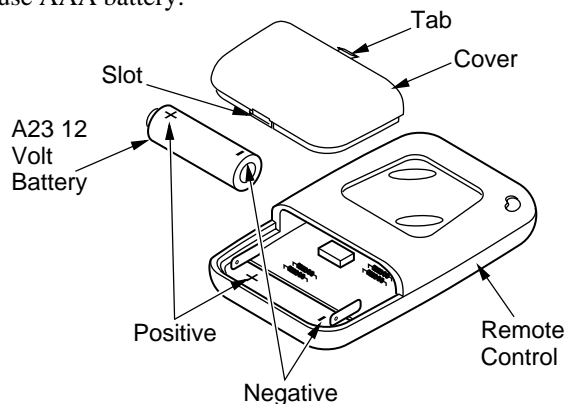

Figure 53 - Installing Battery
1. Locate slot at bottom of remote control (see Figure 53). Firmly insert tool such as a small screwdriver, butter knife, or dime into the slot and lift up to remove cover.